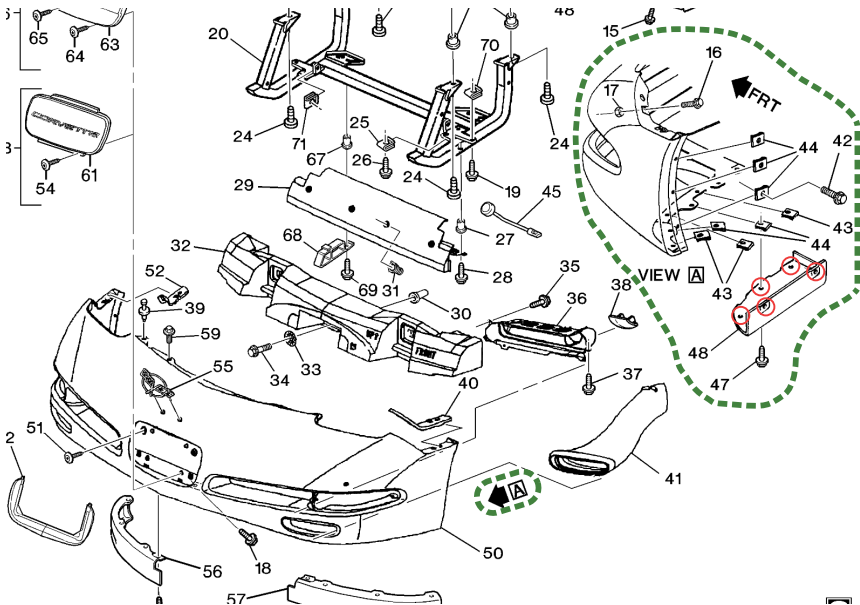

Figure 1 - Removing the Close-Out Panel Screws
- a. Close-out panel screws are circled in red on Figure 1.
8. Use a 10 mm tool to remove two screws (#28 in Figure 1) that secure the spoiler / deflector (#29 in Figure 1) to the radiator support. Set the spoiler / deflector aside until reinstallation.